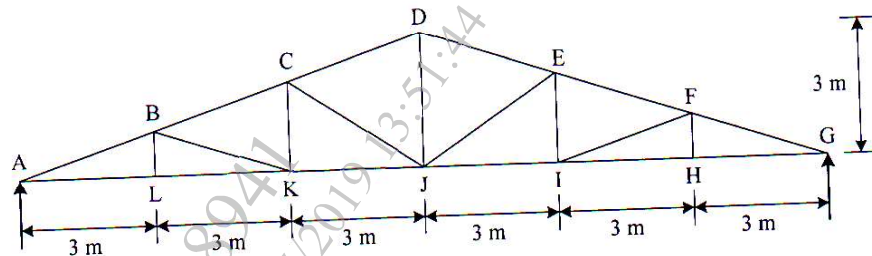

Fig. 9
**Q9)** Determine the design force in members AB, AL and BL for a truss as shown in Fig.9. The design wind pressure is 1500 N/m2. The truss is covered with GI sheet and the center to center spacing of truss is 4 m. Also design purlin using angle section. [18]